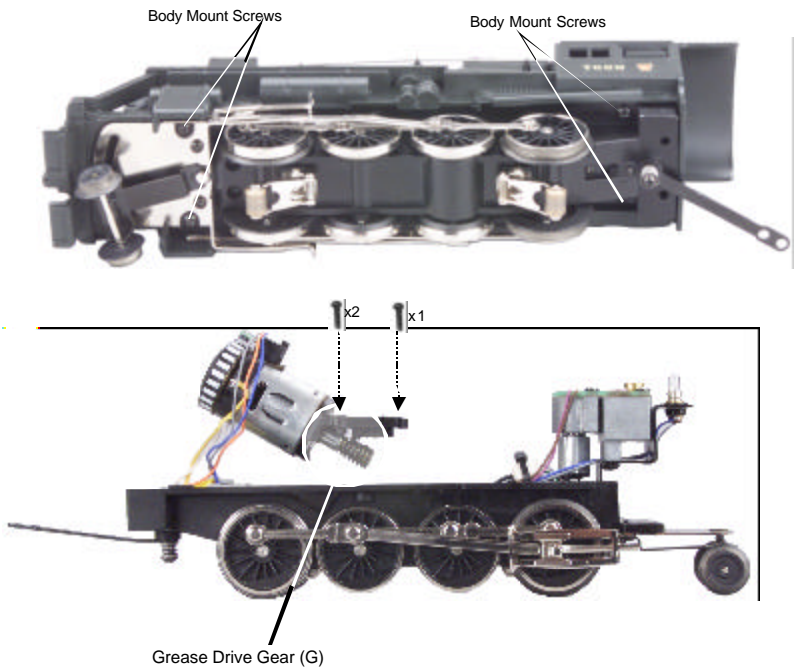
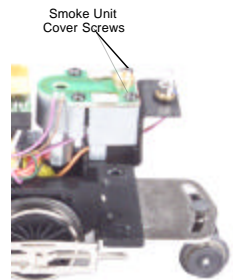
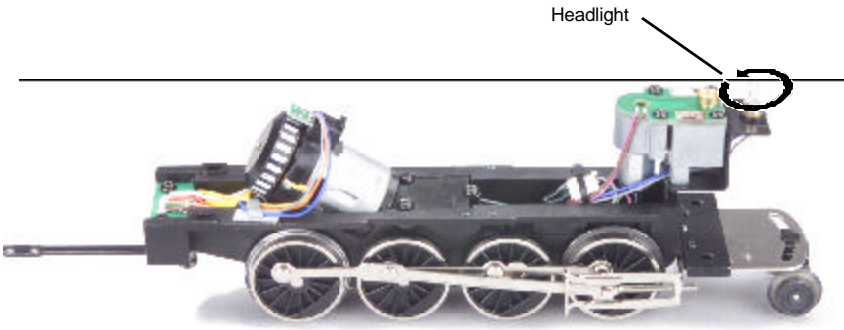

Figure 12. Locations of Body Mount Screws and Diagram for Greasing the Drive Gear
Figure 13. Inspection Cover Screws
Figure 14. Changing the Locomotive's Headlight Bulb
1. Unscrew the chassis screws as shown in Fig. 12 and remove the boiler.
If you experience poor or no smoke output when the smoke unit is on and has fluid, check the wick to see if it has become hard, blackened, and unabsorbent around the heating element. Remove the boiler shell (fig. 12, pg. 12) then smoke unit inspection cover from the smoke unit's body (see Fig. 13). After removing the chassis and inspection cover screws, lift the inspection plate away and inspect the wick. If it is darkly discolored and hard, it should be replaced.
Remove the locomotive boiler from its chassis as shown in Figure 12. Once the body has been removed, rotate the headlight bulb counter-clockwise as seen in Figure 14 to remove.